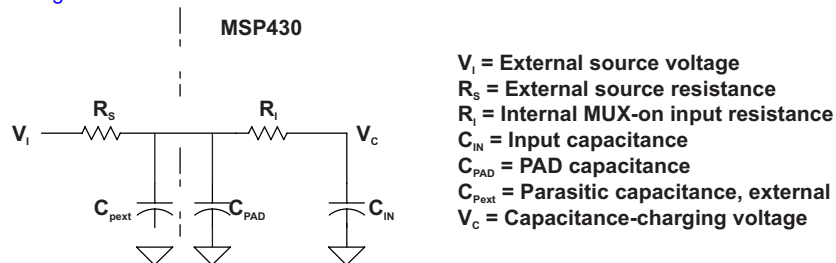

Figure 5-15. eCOMP Input Circuit
(1) eCOMP C_{IN}, model, see Figure 5-15 for details.